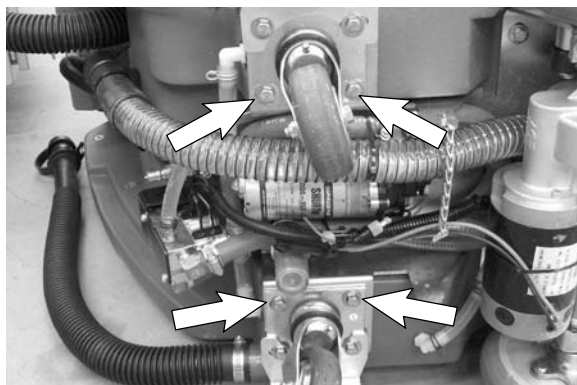

Fig. 1
4. Remove the two inside screws from both caster brackets (Figure 1). Save screws and washers.